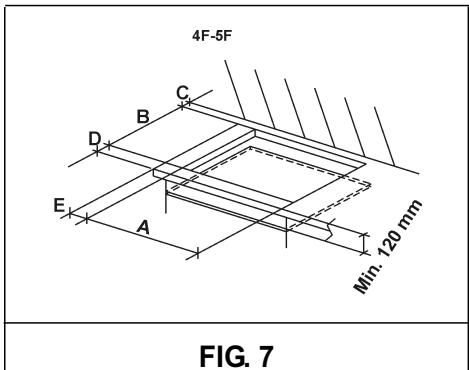

FIG. 7
The measurements of the opening made in the top of the modular cabinet and into which the hot plate will be installed are indicated in either fig. 7. Always comply with the measurements given for the hole into which the appliance will be recessed (see fig. 7 and 8).
- In order to avoid accidental touch with the overheating bottom of the hob, during the working, is necessary to put a wooden insert, fixed by screws, at a minimum distance of 120 mm from the top (see fig. 7).